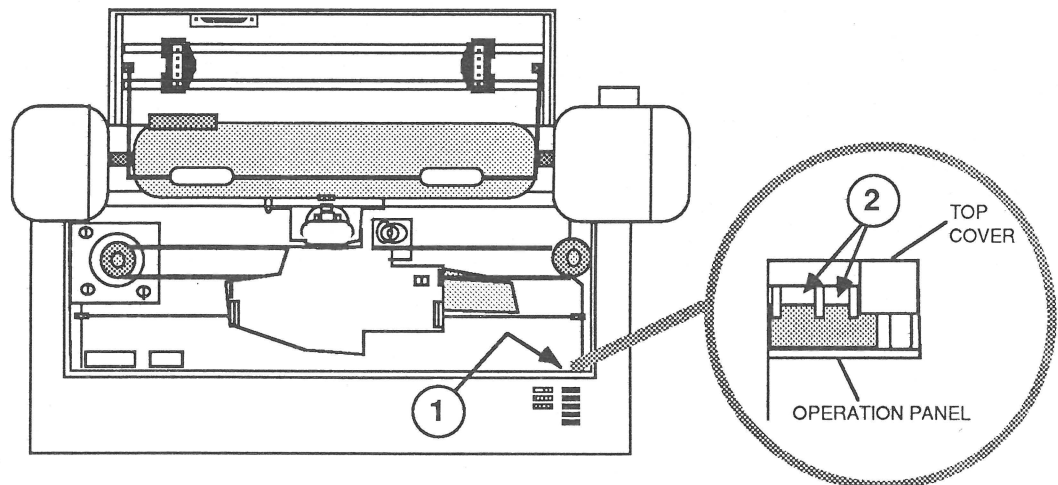

FIGURE 7
6. Find the detector plate. It is on the right side of the printer, hidden just below the on/off switch (Figure 7, #1).
7. Use a brush to remove any paper dust (Figure 7, #2).